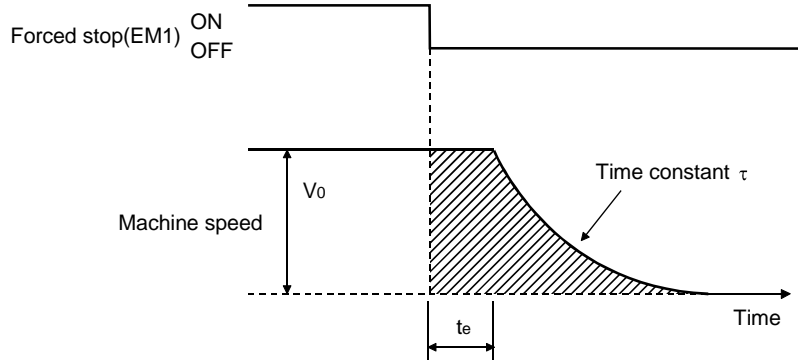
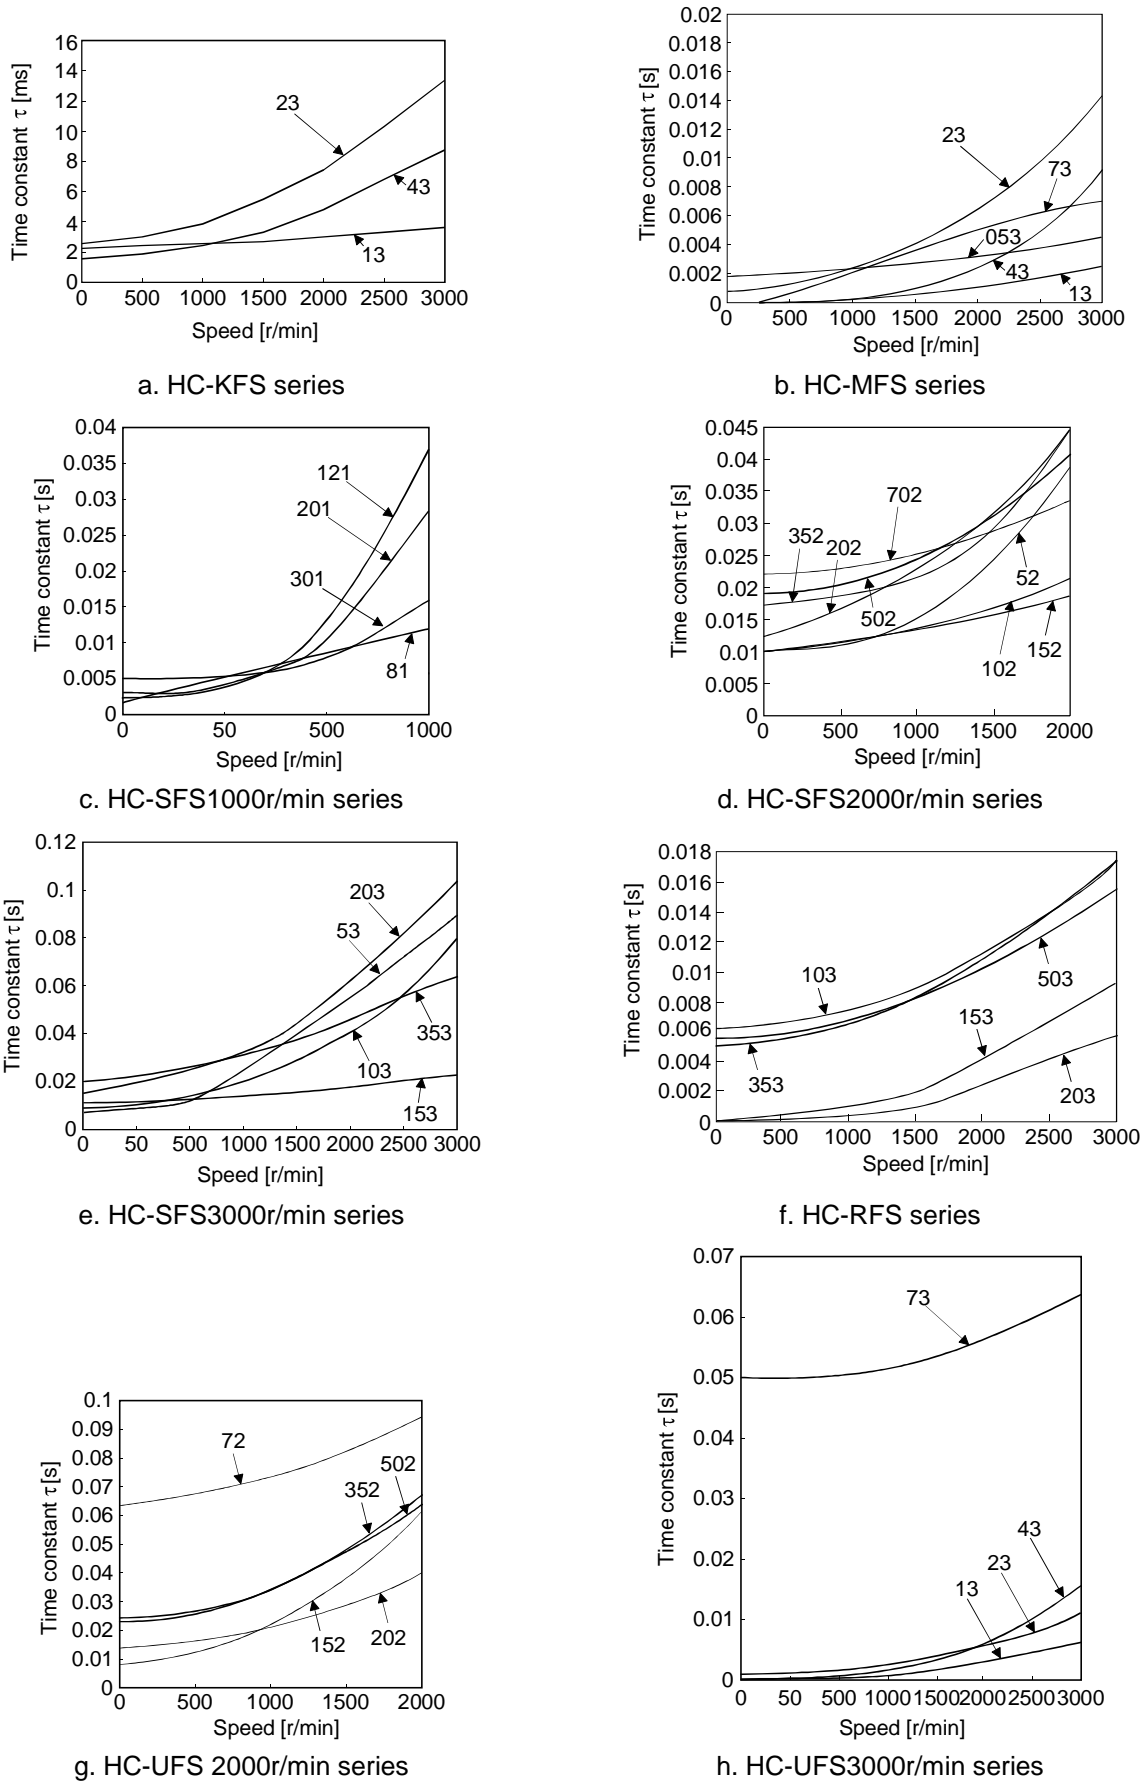

Fig. 11.5 Dynamic brake operation diagram
Fig. 11.6 Dynamic brake time constant
Fig. 11.5 shows the pattern in which the servo motor comes to a stop when the dynamic brake is operated. Use Equation 11.2 to calculate an approximate coasting distance to a stop. The dynamic brake time constant τ varies with the servo motor and machine operation speeds. (Refer to Fig. 11.6)
- τ : Brake time constant (Fig. 11.6) [s]
- t_e : Delay time of control section (Fig. 11.5)..... [s]